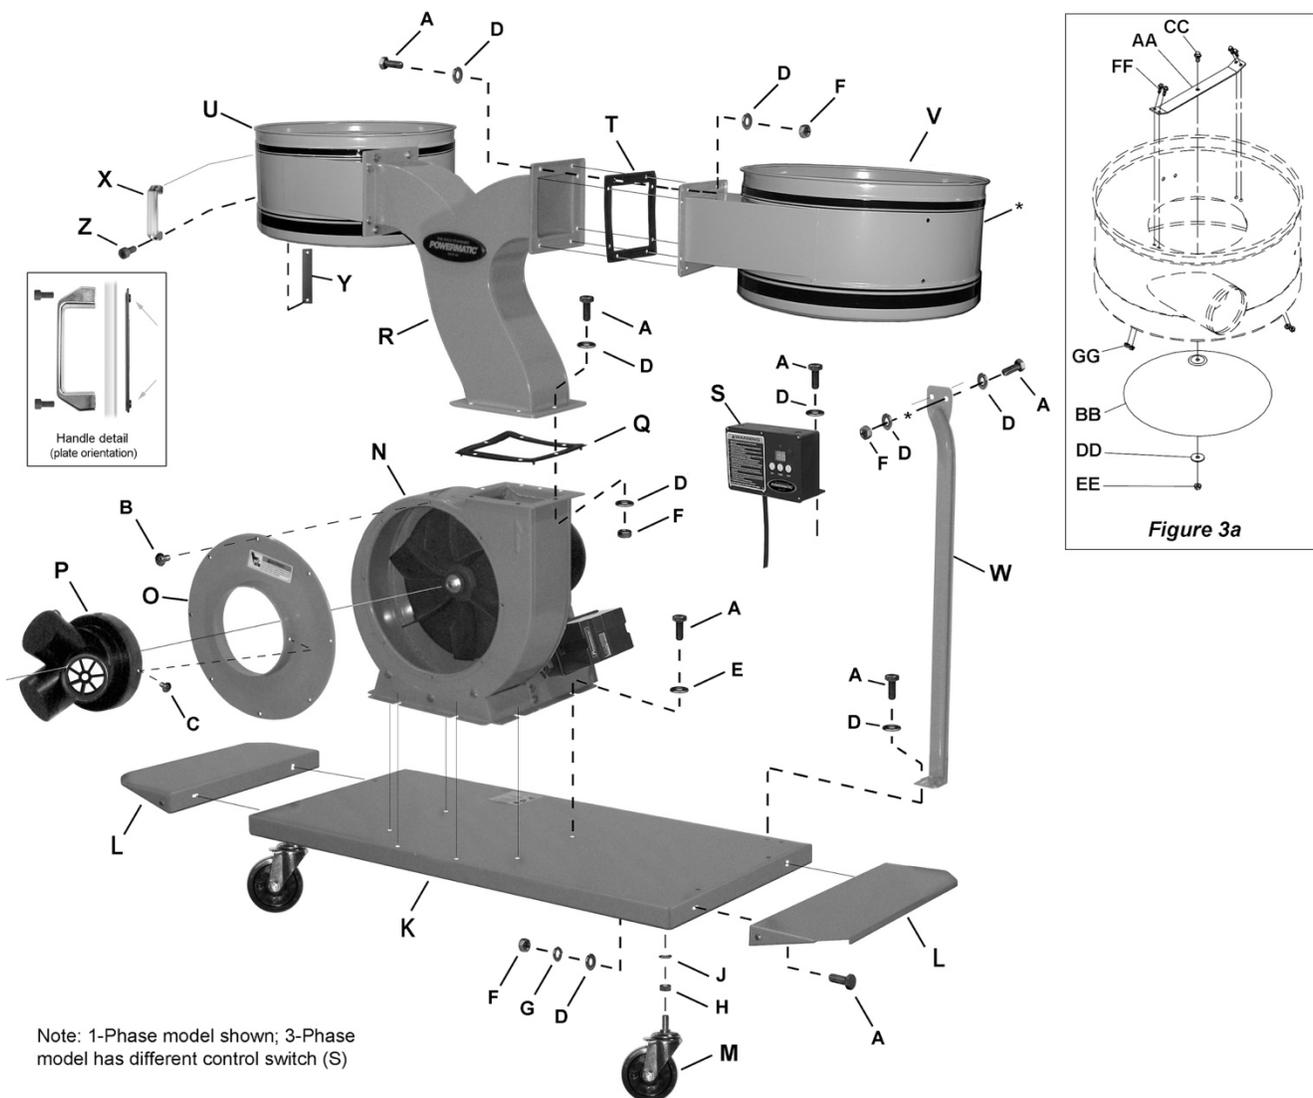

Figure 3: Assembly and part identification
⚠ WARNING The dust collector must not be connected to the power source during assembly. All instructions on this page refer to Figure 3.
Note: Refer to Figure 3 to make sure that the connector tube is facing the proper direction.
1. Remove the *plate* (Y) from the *handle* (X) by loosening the two *socket head cap screws* (Z) with a 6mm hex wrench.
2. Install *handle* (X) to the holes in the *collector housing* (U) by inserting the socket head cap screws through the handle, the collector housing, and into the plate on the opposite side. Tighten the screws.
Note: Make sure the *plate* (Y) is oriented properly, as shown in the Detail in Figure 3: The protrusions on the plate should face away from the handle.